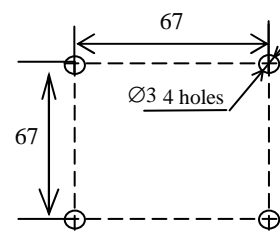

Figure 3
2.2.1 Figure 3 shows the drilling pattern to attach the reader to a wall.